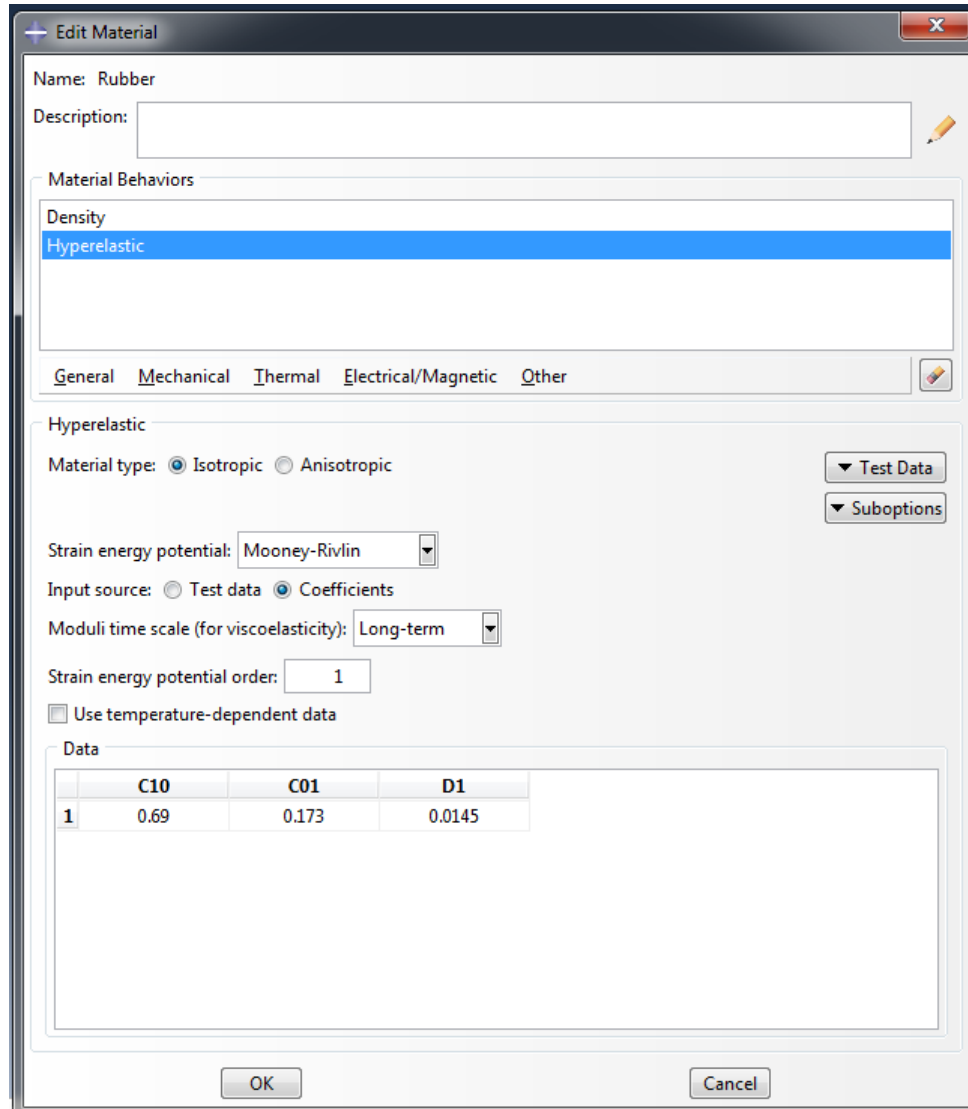

Figure L1a-4. Material editor.
4. Go to **Mechanical**→**Elasticity**→**Hyperelastic**. Select **Mooney Rivlin** as the strain energy potential function and the input source as **Coefficients**. Then enter the value for coefficients of the Mooney Rivlin model as shown in Figure L1a-4.